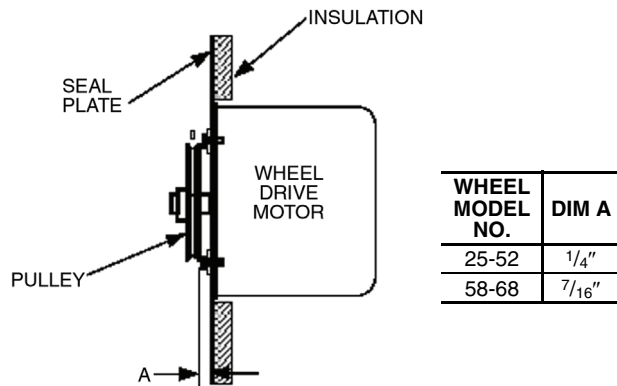

Fig. 167 — Pulley Location
6. Install the pulley to the dimension shown in Fig. 167 and secure the set screw to the drive shaft.